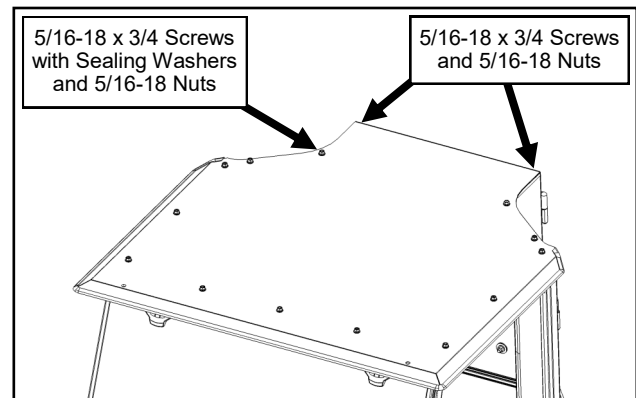

Fig. 12.2 (Install Roof)
12.2 With assistance, set the roof on top of the Door Headers, Windshield Support, and Rear Legs. See Figure 12.2. Loosely secure with sealing washers on the thirteen (13) screws through the top of the roof, and no sealing washers on the two (2) screws through the back of the Rear Legs.